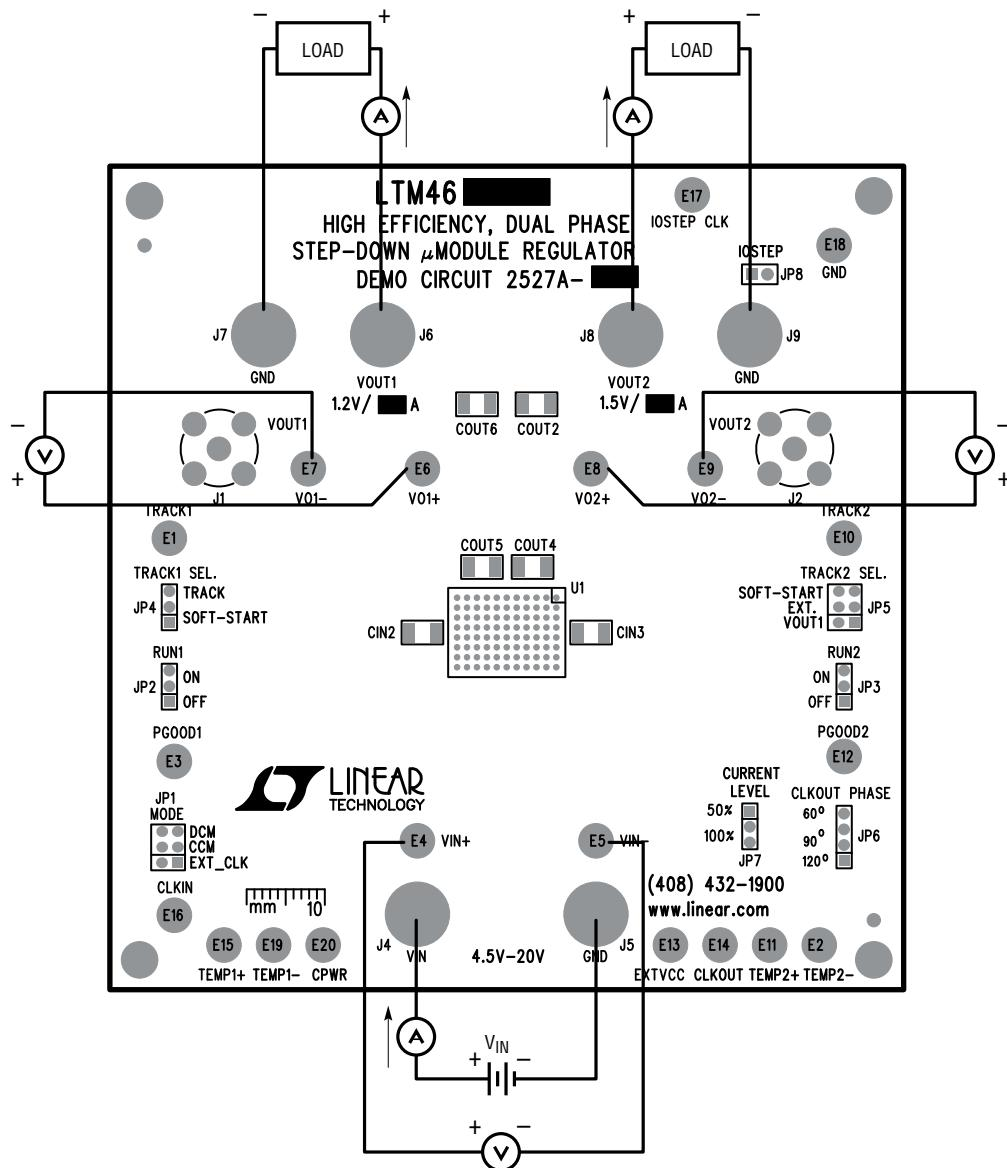

Figure 1. Measurement Setup of DC2527A
Demonstration circuit DC2527A-B is an easy way to evaluate the performance of the LTM4646EY. Please refer to Figure 1 for proper measurement equipment setup and follow the procedure below:
2. With power off, connect the input power supply, load and meters as shown in Figure 1. Preset the load to 0A and V_{IN} supply to 12V.